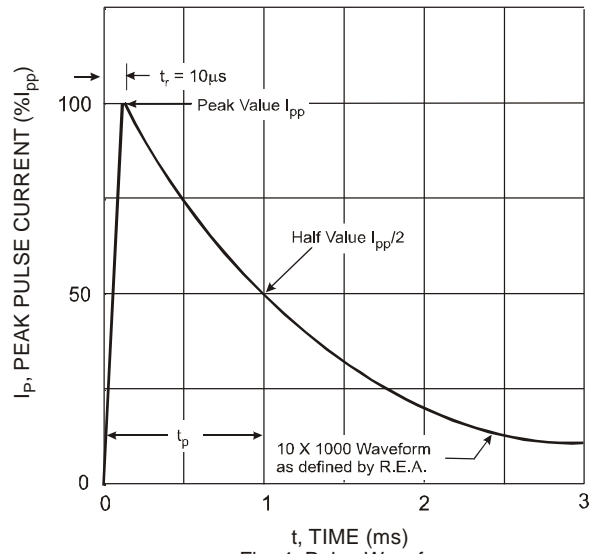

Fig. 4 Pulse Waveform
- 11. Per 10 × 1000µs waveform. See Figure 4.